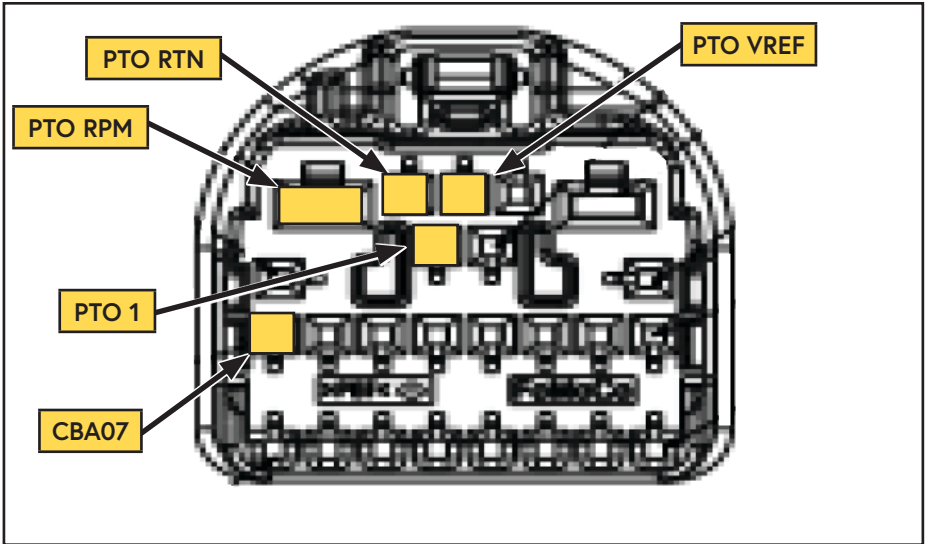

Figure 37 — SEIC connector
- Splice the purple wire from the throttle control to "PTO RTN" (grey wire with violet stripe) of the SEIC pigtail (Figure 37).
- Splice the green wire from the throttle control to "PTO RPM" (green wire with white stripe) of the SEIC pigtail (Figure 37).
- Splice the white wire from the throttle control to "PTO VREF" (white wire with brown stripe) of the SEIC pigtail (Figure 37).
- Splice the orange wire from the control module to the brown wire with blue stripe (key switched 12V CBA07) of the SEIC pigtail (Figure 37).
- Splice the yellow wire from the control module to "PTO 1" (yellow wire with green stripe) of the SEIC pigtail (Figure 37).